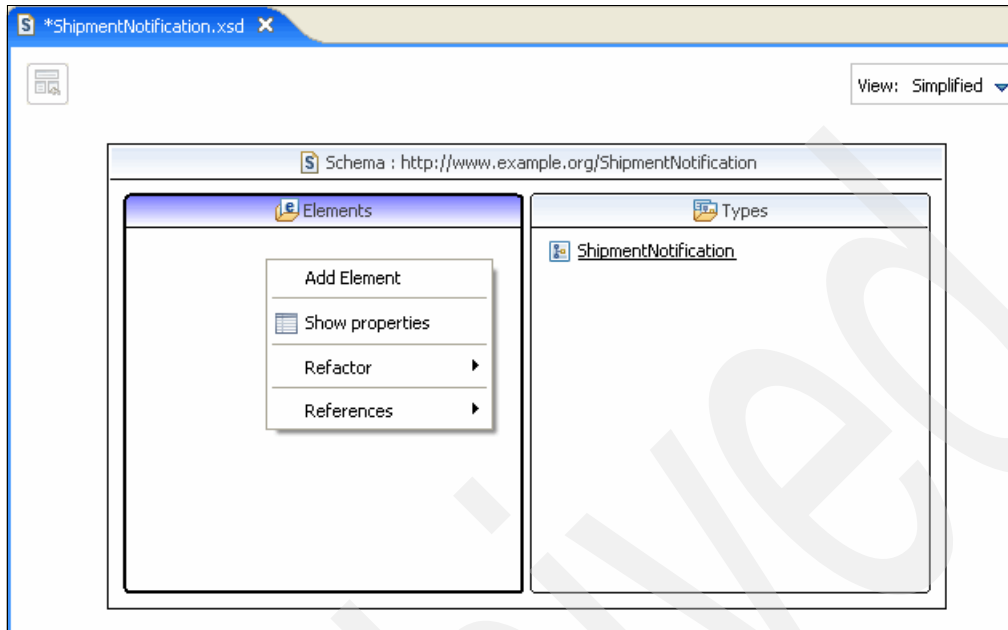

Figure 9-21 Adding elements
8. Right-click the **Elements** tab and select **Add Element** (Figure 9-21).